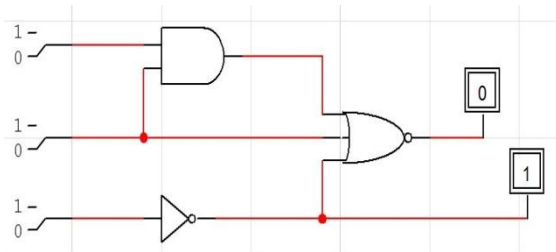

Figure 3.a - Circuit Diagram
- Example:** The circuit shown in figure 3.a below is represented by the file in figure 3.b